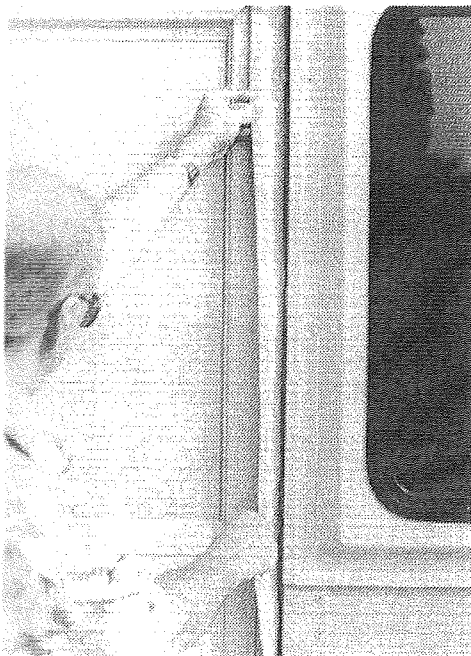

FIGURE 27
Step outside trailer, grasp the vinyl flap with both hands. See Figure 27. Starting at the base of the material, press the tent weather seal on either side of the door frame into the mating velcro on the hard wall. See Figure 28.
15. Step outside the trailer. Begin at the top of the door frame and carefully pull the tent weather seal on either side of the door frame from the mating velcro attached to the hard walls. See Figures 27 and 28.